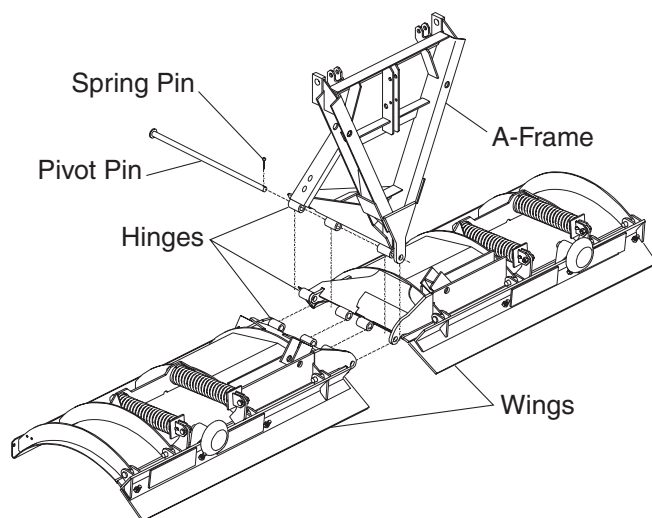

Figure 1
2. Push the blade wings together so that the holes in the hinges are aligned. **(See Figure 1.)**
3. Insert the A-frame hinges between the blade wings so that the holes in the A-frame hinges are aligned with the blade wing hinges. **(See Figure 1.)**
4. Insert the pivot pin through the hinges of the blade wings and the A-frame. **(See Figure 1.)**